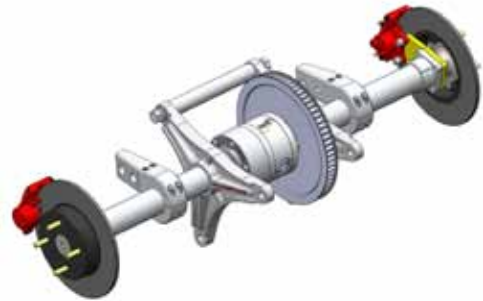

Figure 8
a. Install rear axle clamps using the supplied hardware. The driver side clamp slot must register into dowel pin on rear end. (Note: The rear brake lines run through each clamp with nylon protective tube.) Figure 8
- Remove two of the connector tubes from the rear end. Figure 8